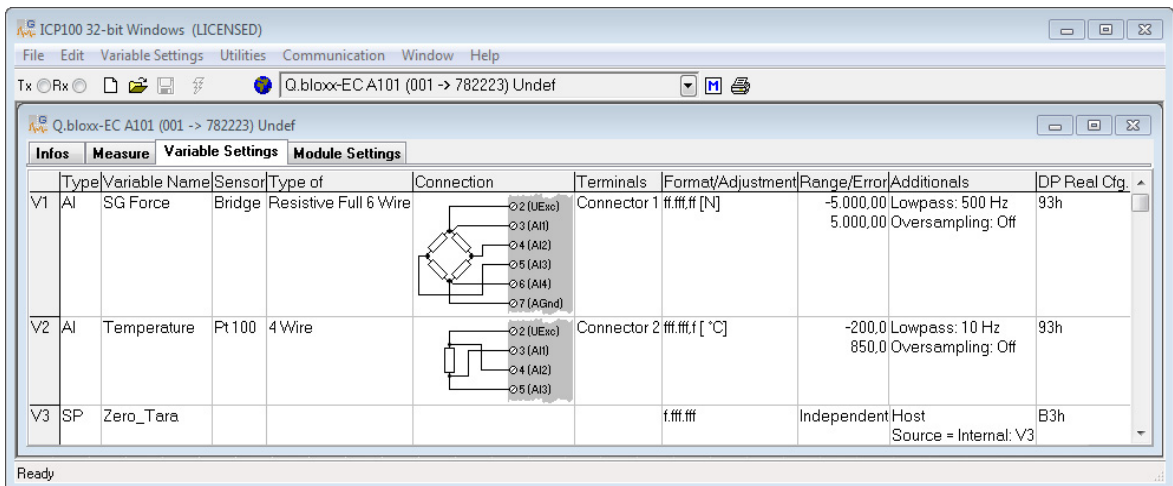

Fig. 5-2 Defining the variable for zero balancing and/or taring.
1. Click in the column **Type** of the first free row (V3 = Variable 3 in Fig. 5-2) or mark the row (click on V3) and use **Variable definition > Type**.
3. Click in the column **Variable name** and allocate a name specifying the purpose of the signal, e.g. Zero_tare (Fig. 5-2).
4. Click in the column **Format/balance** of the channel for which zero balancing and/or taring is to be executed, e.g. for the strain-gauge force sensor in Fig. 5-2.